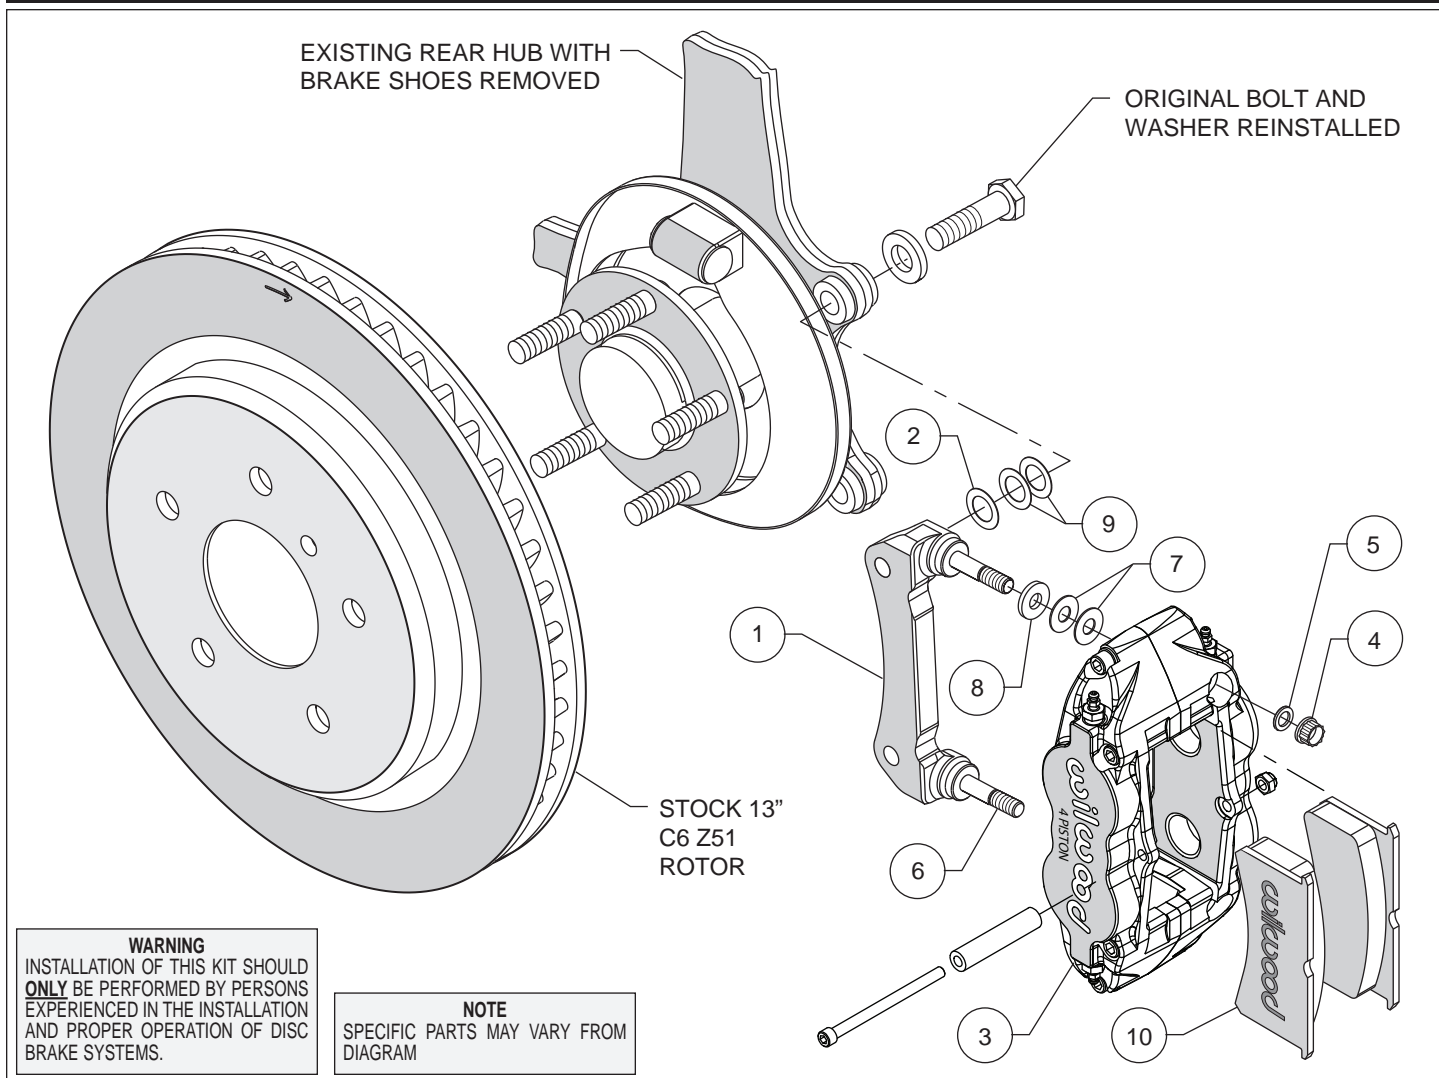

Figure 1. Typical Installation Configuration
**Assembly Instructions** (numbers in parenthesis refer to the part lists and Figure 1 on the preceding pages):
- The caliper mount bracket (1) should initially be installed with clean, dry threads on the mounting bolts. Orient the bracket as shown in Figure 1 and install using saved Original Equipment (OE) mount bolts and washers. Initially place two .029" thick shims (9) and one .015" thick shim (2) on each bolt between the bracket and upright, Figure 1. Temporarily tighten the mounting bolts. **NOTE:** *The bracket must fit squarely against the mount bosses on the upright.* Inspect for interference from casting irregularities, machining ridges, burrs, etc. Later, after the caliper alignment has been checked, the mount bolts will be secured using red *Loctite*® 271.
- Lubricate the caliper mounting studs (6) with lightweight oil. Initially place two .035" thick shims (7) and one .062" thick spacer (8) on each stud as shown in Figure 1 and Photo 1. Mount the caliper (3) onto the bracket (1) using lock nuts (4) and washers (5), Figure 1. Temporarily tighten the lock nuts and view the rotor through the top opening of the caliper. The rotor should be centered in the caliper, Photo 2. If not, adjust by adding or subtracting shims (2 and/or 9) between the bracket and the mounting bosses. Always use the same amount of shims on each of the two mounting bolts. Once the caliper alignment is correct, remove the bracket mounting bolts one at a time, apply red *Loctite*® 271 to the threads, and torque to manufacturer's specifications.